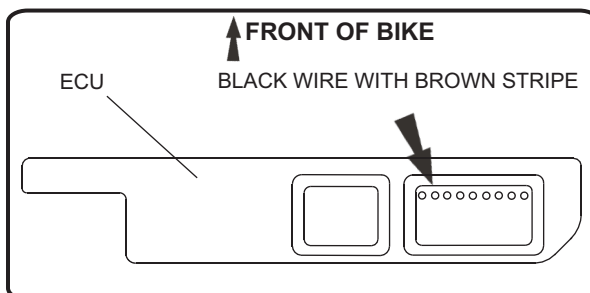

Fig. 12
- 3 Pull out black wire with brown stripe. (See Fig. 12 & 13)